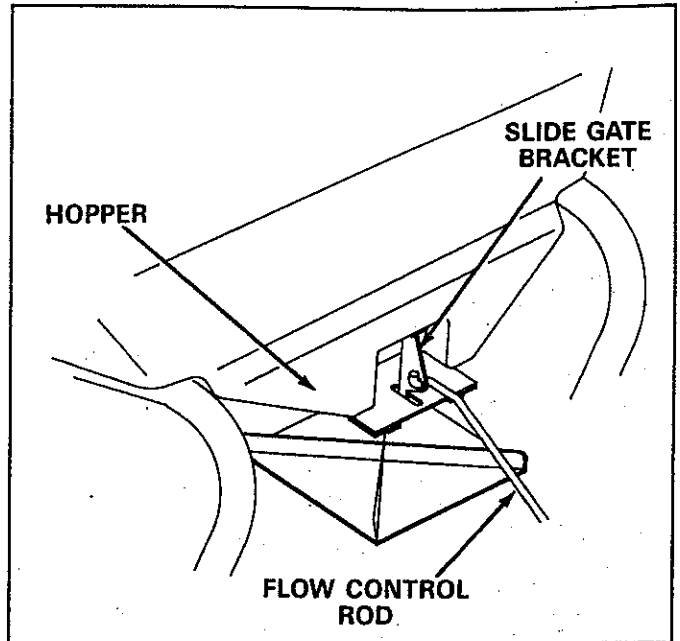

FIGURE 12
18. Hook free end of flow control rod through hole in slide gate bracket located near bottom of hopper. See figure 12.